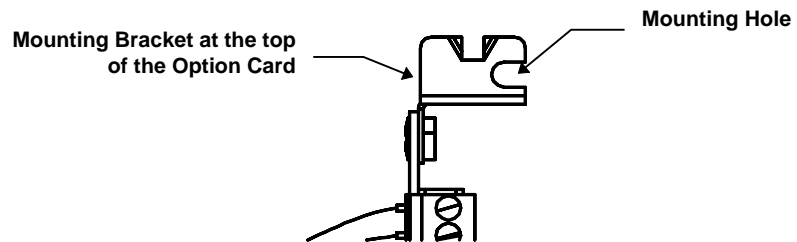

Figure 7. Option Card Mounting Bracket
- Using the screw and lockwasher provided, secure the mounting bracket to the system chassis (see Figure 7).